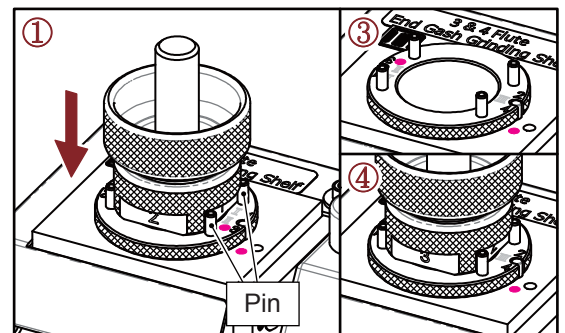

Fig. 12-2
2. 4 Flute End Gash Grinding (II) (Fig. 12-2)
- ① Insert the Chuck set into the bushing on Shelf (II), align Slot No.1 with the two pins where marked as No.(1·3), gently push the Chuck set until the grinding noise stops.
- ② Take the Chuck set out and turn it to grind the Slot No.3 in the same way.
- ③ Take the Chuck set out and turn the bushing to No.(2·4), align No.(2·4) with the pin on the shelf, then insert it to the end.
- ④ Insert the Chuck set into the bushing, align Slot No.2 with the two pins where marked as No.(2·4), gently push the Chuck set until the grinding noise stops.
- ⑤ Take the Chuck set out and turn it to grind the Slot No.4 in the same way.